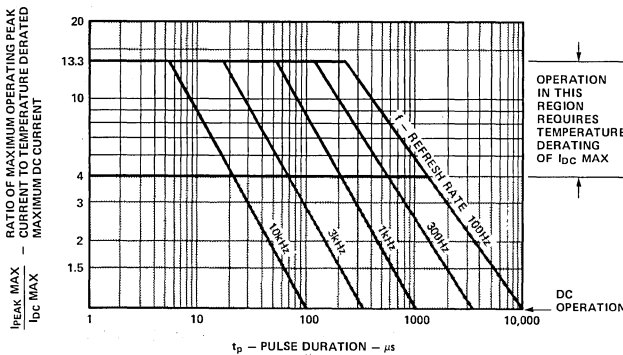
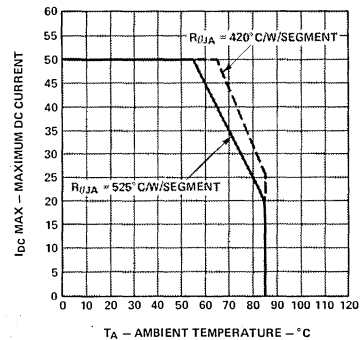

Figure 1. Maximum Allowable Peak Current vs. Pulse Duration
Figure 2. Maximum Allowable DC Current per Segment vs. Ambient Temperature
- See Power Derating Curves (see Figure 2 for -3400 Series, Figure 7 for -3900/-4200 Series, and Figure 12 for -8600 Series).
Temperature derated strobed operating conditions are obtained from Figures 1, 6, or 11 and 2, 7, or 12. Figures 1, 6, and 11 relate pulse duration ( $t_p$ ), refresh rate ( $f$ ), and the ratio of maximum peak current to maximum dc current ( $I_{\text{PEAK MAX}}/I_{\text{DC MAX}}$ ). Figures 2, 7, and 12 present the maximum allowed dc current vs. ambient temperature. Figures 1, 6, and 11 are based on the principle that the peak junction temperature for pulsed operation at a specified peak current, pulse duration and refresh rate should be the same as the junction temperature at maximum DC operation. Refresh rates of 1 kHz or faster minimize the pulsed junction heating effect of the device resulting in the maximum possible time average luminous intensity.
Worst case thermal resistance pin-to-ambient is 400°C/W/Seg when these devices are soldered into minimum trace width PC boards. When installed in a PC board that provides  $R\theta_{PIN-A}$  less than 400°C/W/Seg these displays may be operated at higher average currents as shown in Figure 2.